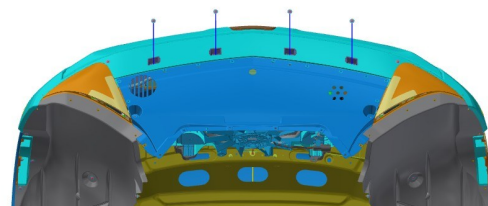

Figure 4b
2. Remove 4 more bolts in the recess cavities of the insulator (Figure 4b)